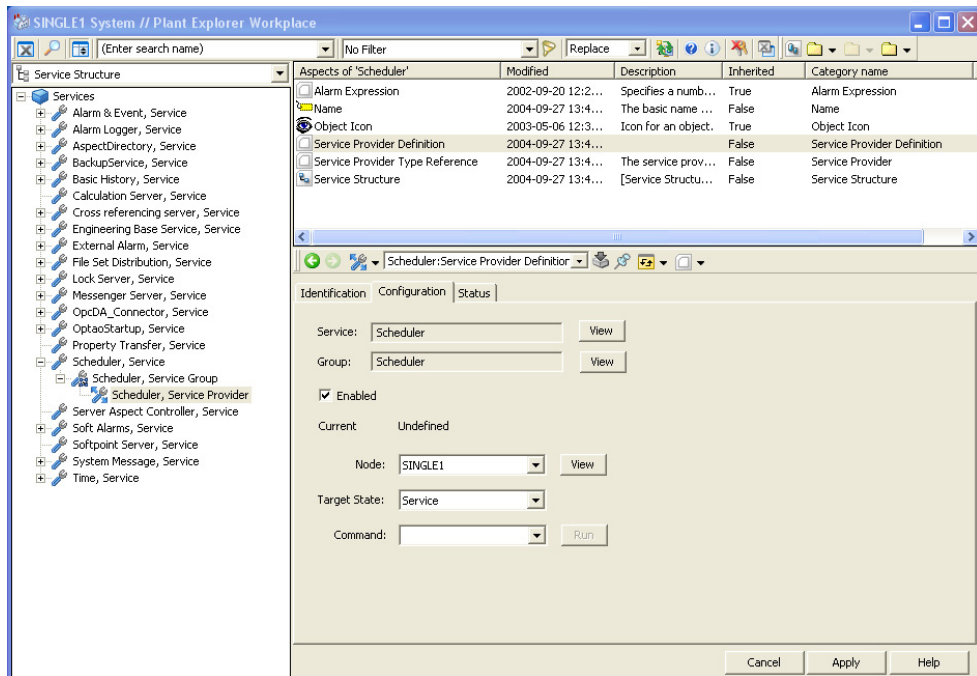

Figure 183. Service Provider Definition - Configuration Tab
3. Configure the Service Provider object to point out the node where the service (in this case Scheduler) must run (see Figure 183).